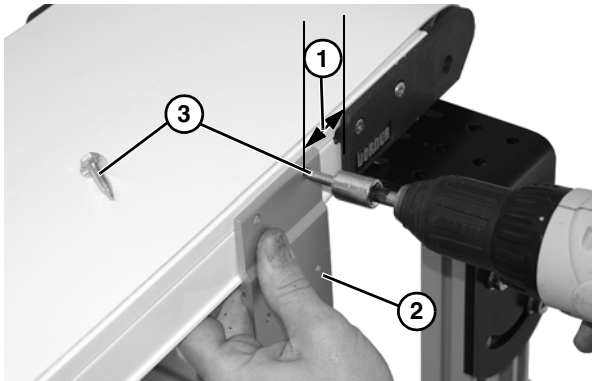

Figure 11
4. Measure an equal distance (**Figure 11, item 1**) from end of head plate (on both sides of conveyor) and mark placement of mounting brackets (**Figure 11, item 2**). Fasten mounting brackets to conveyor with mounting screws (**Figure 11, item 3**) following proper methods of attachment instructions on page 10.